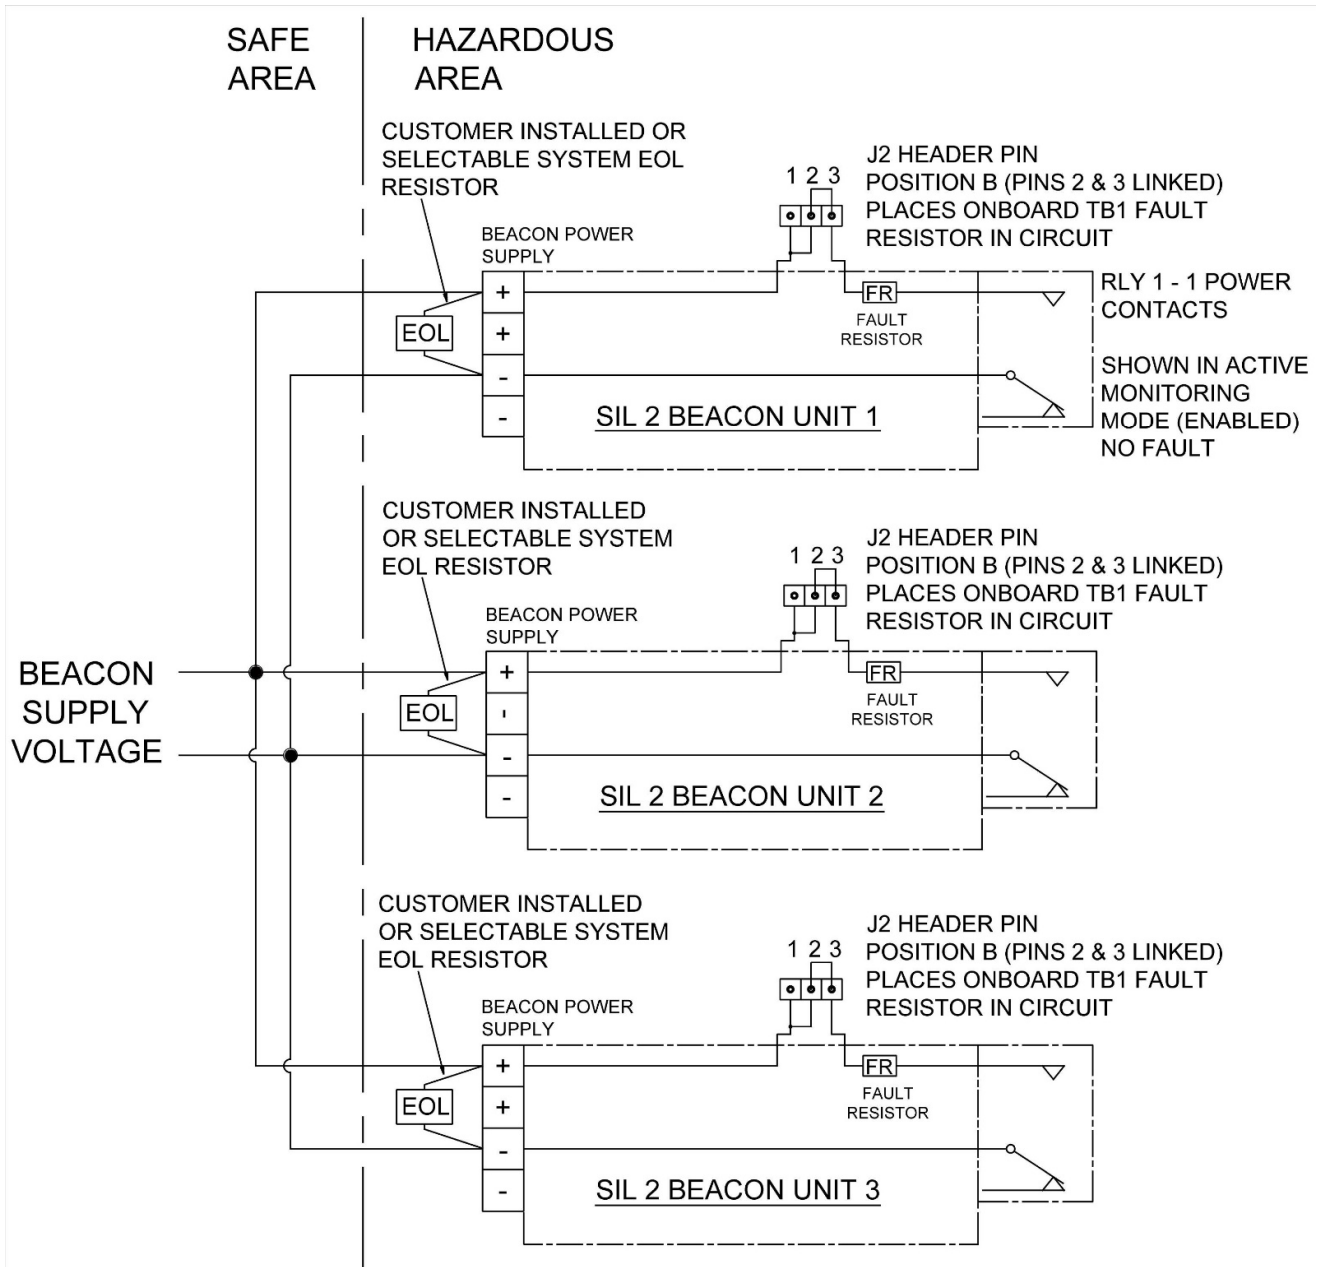

Figure 14: Schematic of SIL 2 system wiring for fault detection in standby mode only – 2 wire installation configuration in star formation
- A star topology is when each unit is connected to a central source as shown in figure 14.